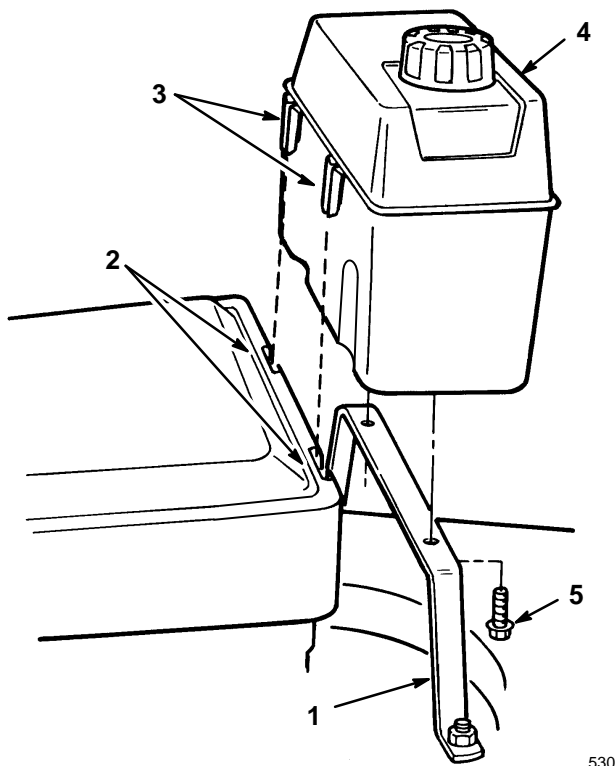

Figure 4
2. Hook plastic clips on front of gas tank into slots on rear of engine (Fig. 4).
3. Secure gas tank to tank base with (2) self-tapping screws (Fig. 4). Do not overtighten screws.